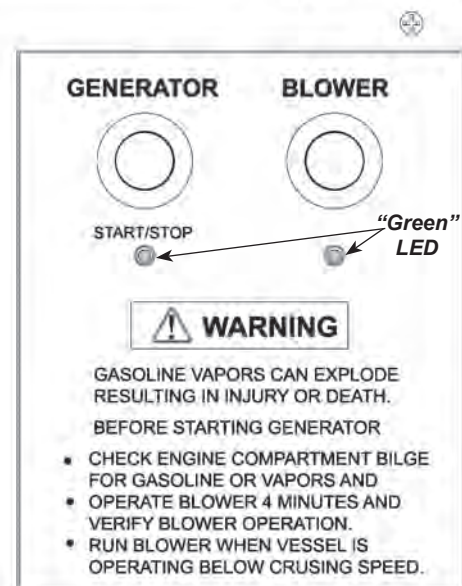

Figure H24: Remote Generator & Blower Switches
4. Check the bilge for fumes. Operate the blower by pressing the remote switch on the panel. Operate blower for at least 4 minutes. Verify blower operation. The “green” LED when lit signifies the blower is operating. **Note:** Follow the procedures indicated on the generator switch panel before starting generator and while running generator. See Figure H24.
- Start the generator using the remote generator start switch on the 240V AC cabin panel. See Figure H24.